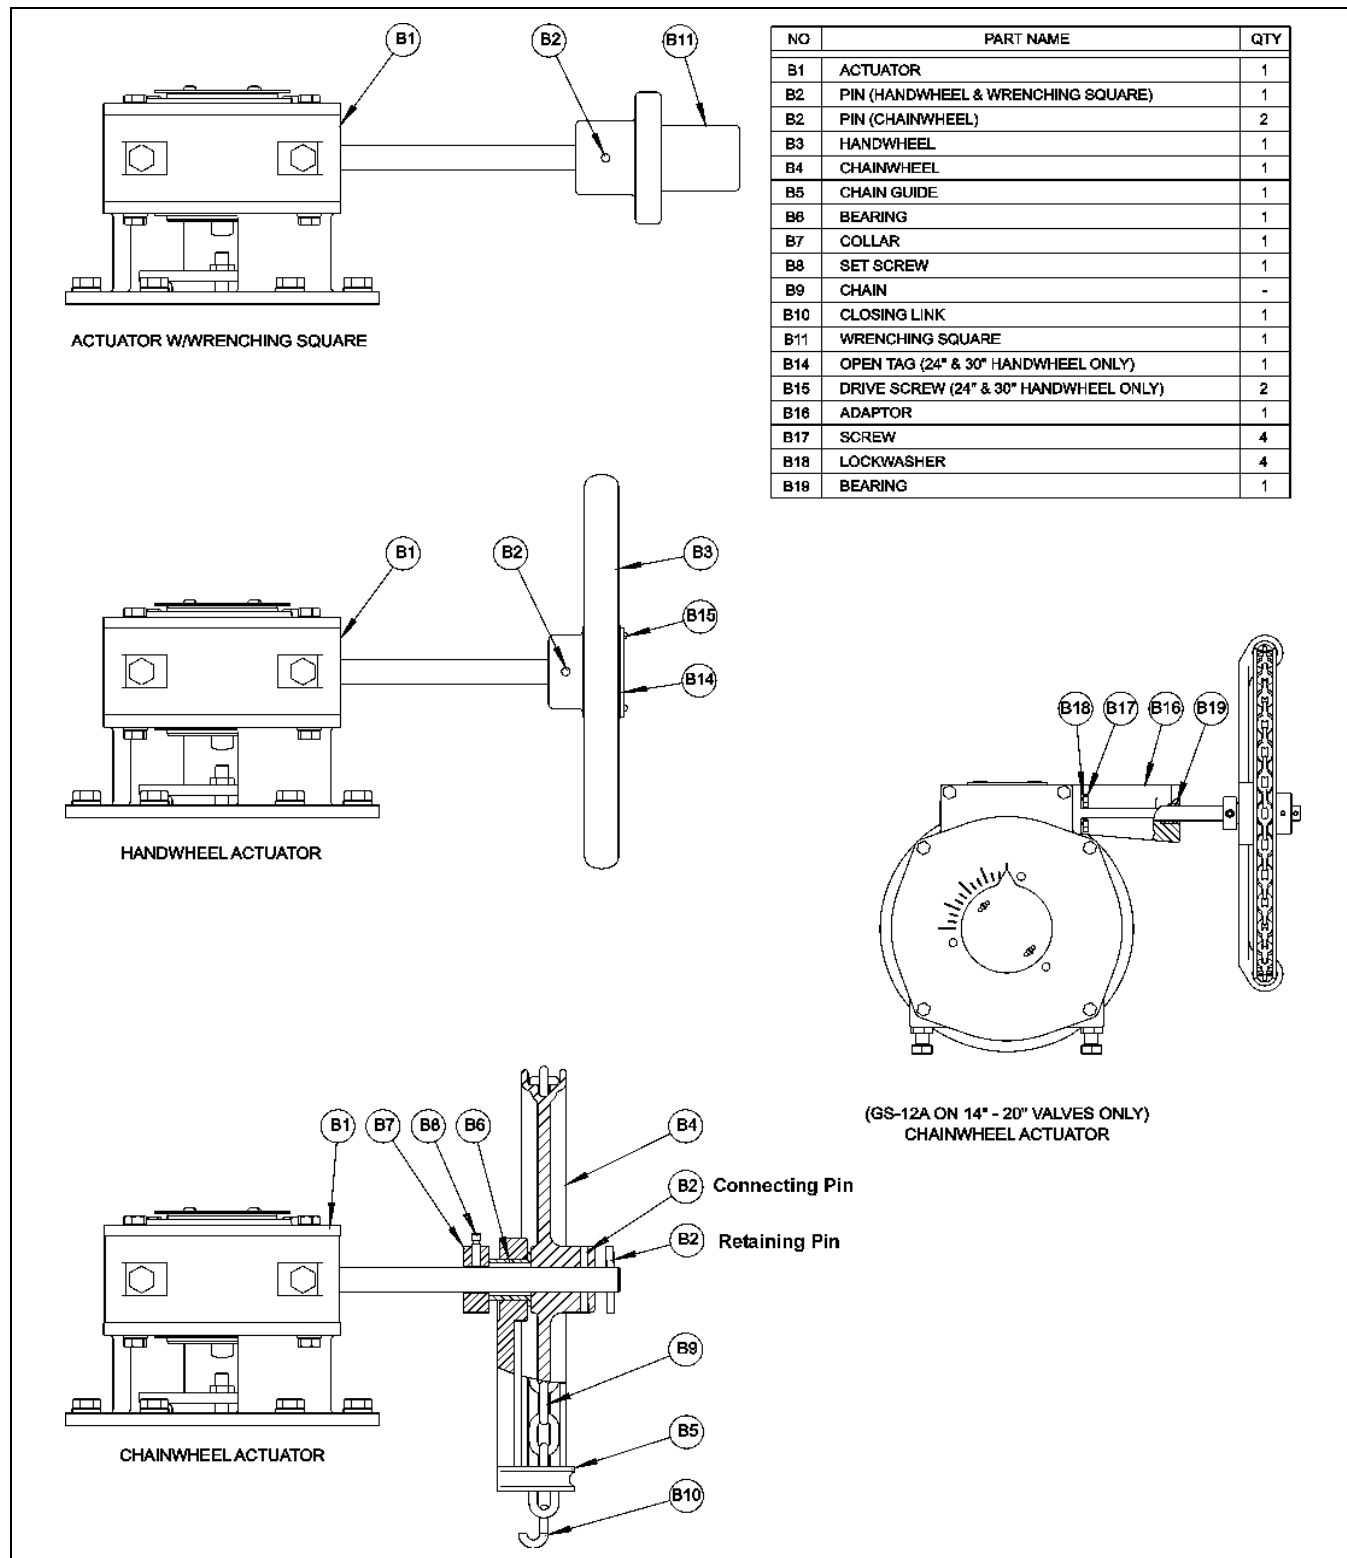

Figure 7— Operator Component Identification
Refer to Figure 7 for component identification.
4. Align the second pin hole in the actuator shaft and the pin hole in the chainwheel hub. Support the hub of the chainwheel with a solid surface and drive the connecting pin (B2) into position. See Figure 7 for location of connecting pin.
5. Support the hub of the chainwheel with a solid surface and drive the retaining pin (B2) into the remaining pin hole at the end of the actuator shaft. See Figure 7 for location of retaining pin.
6. Align the second pin hole in the actuator shaft and the pin hole in the chainwheel hub. Support the hub of the chainwheel with a solid surface and drive the connecting pin (B2) into position. See Figure 7 for location of connecting pin.